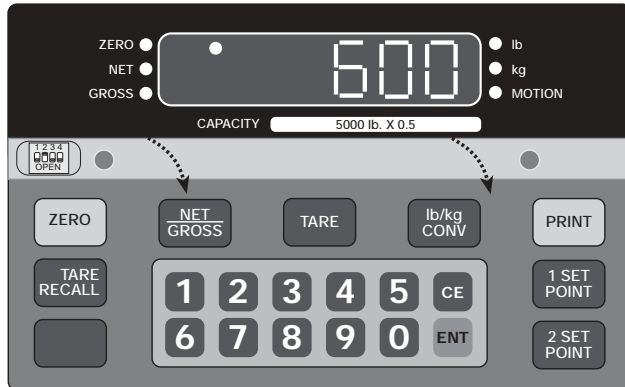

Figure 3-1. Accessing the Program Switches
1. Unscrew the two screws on the face plate bracket (Figure 3-1). The bracket drops down, exposing four program switches on the left side of the indicator.